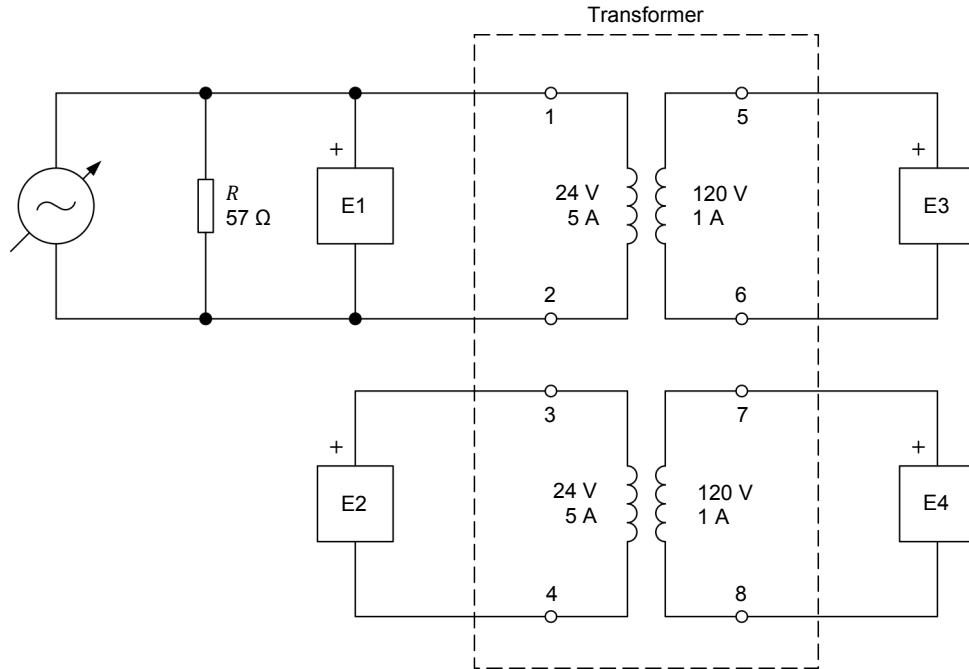

Figure 15. Circuit for determining transformer winding polarity using an oscilloscope.
8. Connect the equipment as shown in Figure 15.
The resistive load in the circuit of Figure 15 is used to improve the appearance of the voltage waveforms. As the resistive load is connected in parallel with the ac power source, it has no effect on the measured voltages.